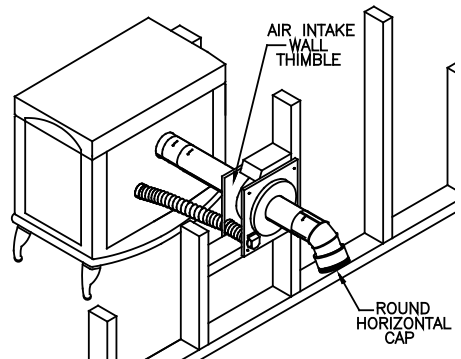

Figure 13
of the stove with clamp provided. Only connect metal flex to the appliance; do not substitute or install plastic flex. The cover plate comes installed on the lower left corner of the thimble with intake guard pointing downward to deflect rain. If it is desired to rotate thimble and air inlet to another corner, remove the (2) screws on the inlet guard and re-attach over air inlet at new location. Secure black interior half of the Wall Thimble to the interior wall, and the unpainted exterior half are to be secured to the exterior wall on both styles of thimbles (Figure 13). The Wall Thimbles adjust to fit walls from 4"-8" thick. For installation in thicker walls an extension tube may be field fabricated. **WARNING:** Do NOT install any insulation or other material within the Wall Thimble itself. Doing so can create a fire hazard. The Wall Thimble requires the created air clearance from the pipe in order to make a safe installation. However, building insulation
5. If the flue exit is on back of the stove, and a horizontal through-the-wall installation is desired (**Figure 13**):